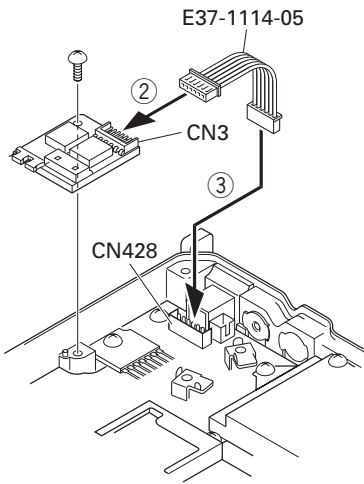

Fig. 2-2
3. Remove the 6-pin jumper connector inserted in the TX-RX unit (B/3) connector (CN428). ( ① )
4. Insert one side of the lead wire with connector (E37-1114-05) into the relay unit connector (CN3) ( ② ) and the other side into the TX-RX unit (B/3) connector (CN428) ( ③ ).
5. Place the relay unit at the position shown in Figure 2-2 and secure it to the chassis with a screw.
6. Remove the cap on the rear of the chassis by pushing it from the inside with your finger. ( ④ )
7. Pass the 6-pin connector of the cable (E37-1113-05) through the chassis hole ( ⑤ ) and insert the bush into the chassis hole.
8. Rotate the bush of the cable 90 degrees counterclockwise as viewed from the rear of the chassis. ( ⑥ )
9. Insert the 6-pin connector of the cable into the connector (CN2) of the KAP-2 relay unit. ( ⑦ )